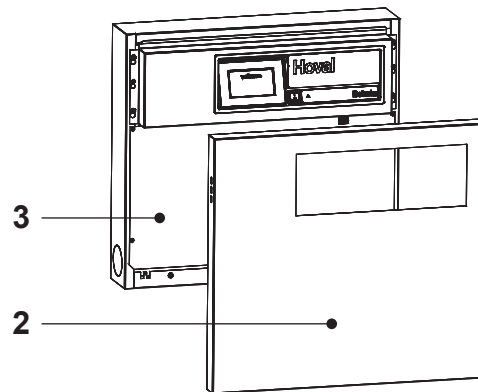

Fig. 11
2. Remove the front (2, Fig. 11) and electrical box cover (3) of the electrical box.